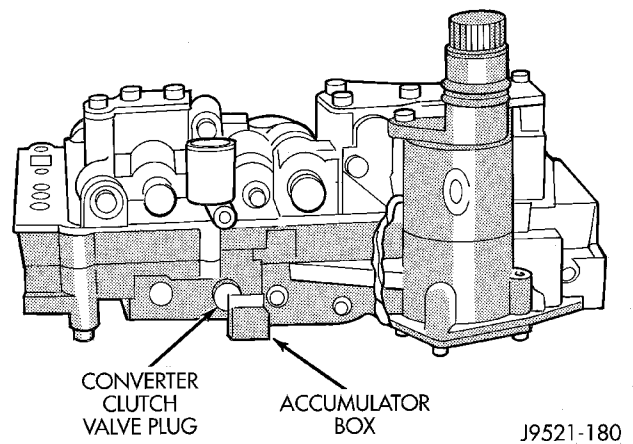

Fig. 90 Seating 3-4 Accumulator On Lower Housing
(5) Position plug on end of converter clutch valve spring. Then compress and hold springs and plug in place with fingers of one hand.
(6) Swing accumulator housing upward over valve springs and plug.
(7) Hold accumulator housing firmly in place and install remaining two attaching screws. Be sure springs and clutch valve plug are properly seated (Fig. 90). Tighten screws to 4 N·m (35 in. lbs.).